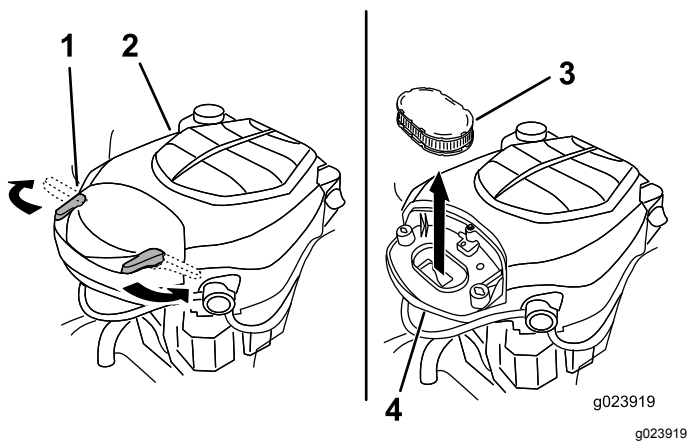

Figure 30
2. Remove the cover to access the air-cleaner element (Figure 30).
6. Install the cover and secure it with the latches (Figure 30).